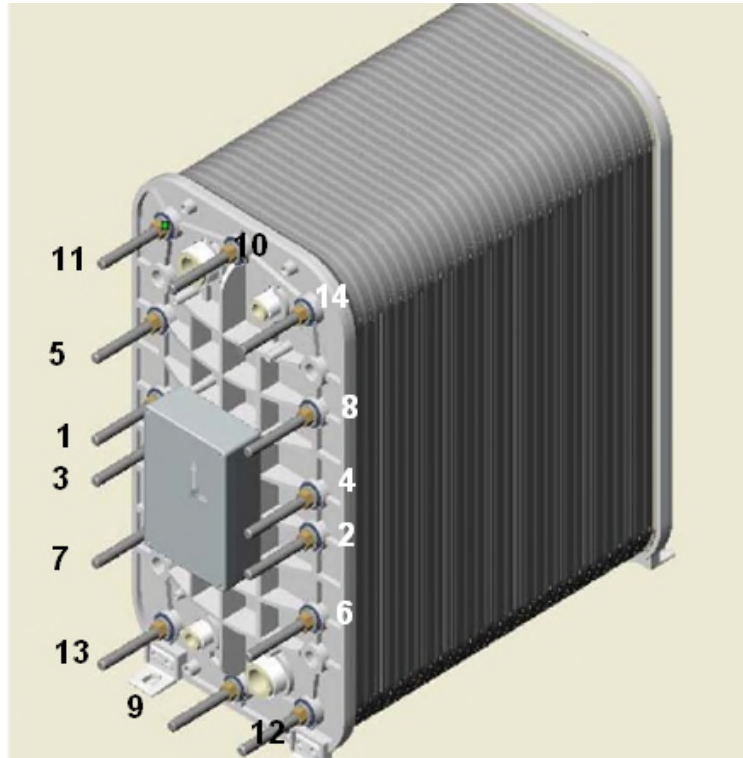

Figure 3-1 Module Tightening Sequence
Before starting the LX Module for the first time, check the tightness of the Module end plate tie-bar nuts. Referring to Figure 3-1 and Table 3-1, tighten as required. Not all modules will need tightening.
- **Sequence:** Figure 3-1 shows the sequence in which to tighten the tie bars. In other words, start the tightening process with # 1, and finish with # 14.
- **Torque Specification:** Table 3-1 gives the torque specification for each tie-bar, as numbered in Figure 3-1.